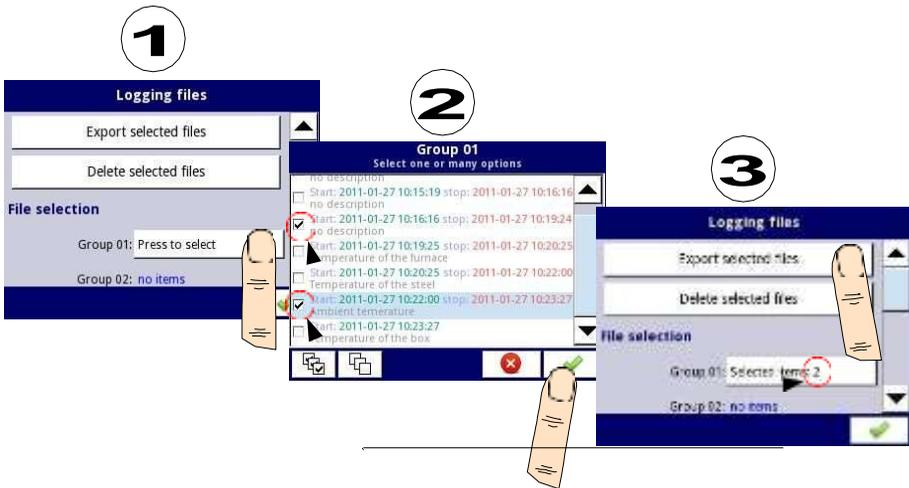

Fig. 7.19. Steps of exporting logged files to flash drive
An example of exporting 2 logged files from group 1 is shown in **Fig. 7.19**. First plug the flash drive into the device (when the device is equipped with one of the communication modules).
Deleting files from the device is similar to exporting logging files, the difference is that instead of pressing the **Export selected files** button in (3) step (see Fig. 7.19), press the **Delete** button.